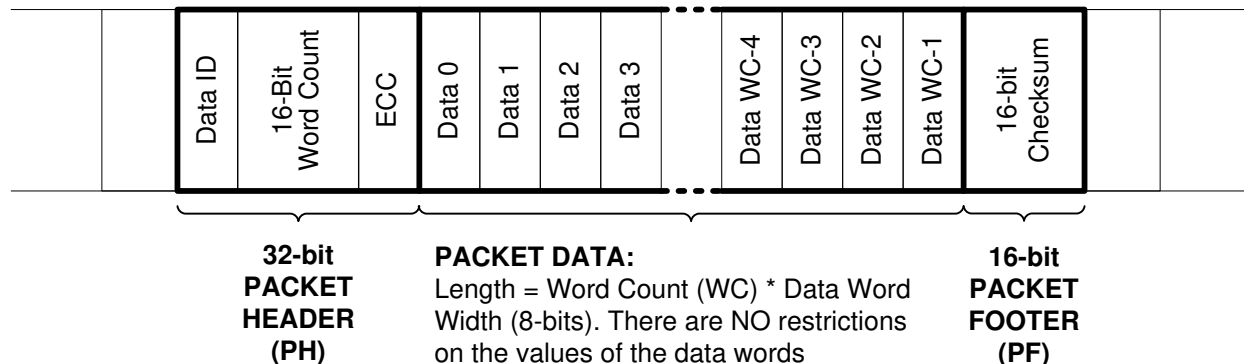

Figure 7-8. CSI-2 Long Packet Structure
A long packet consists of three elements: a 32-bit packet header (PH), an application-specific data payload with a variable number of 8-bit data words, and a 16-bit packet footer (PF). The packet header is further composed of three elements: an 8-bit data identifier, a 16-bit word count field, and an 8-bit ECC. The packet footer has one element, a 16-bit checksum. Figure 7-8 shows the structure of a long packet.